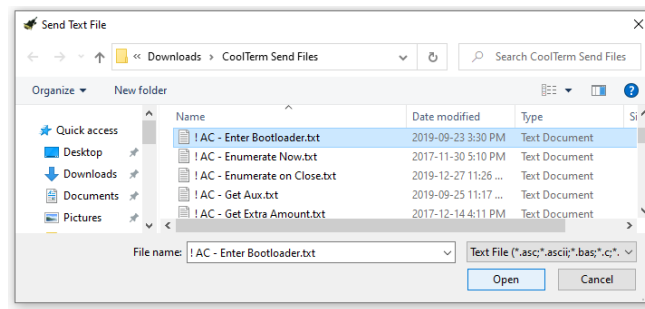

Figure 44. !AC - Enter Bootloader.txt” command file.
- Send the "**! AC - Enter Bootloader.txt**" command file (see **Figure 44**).